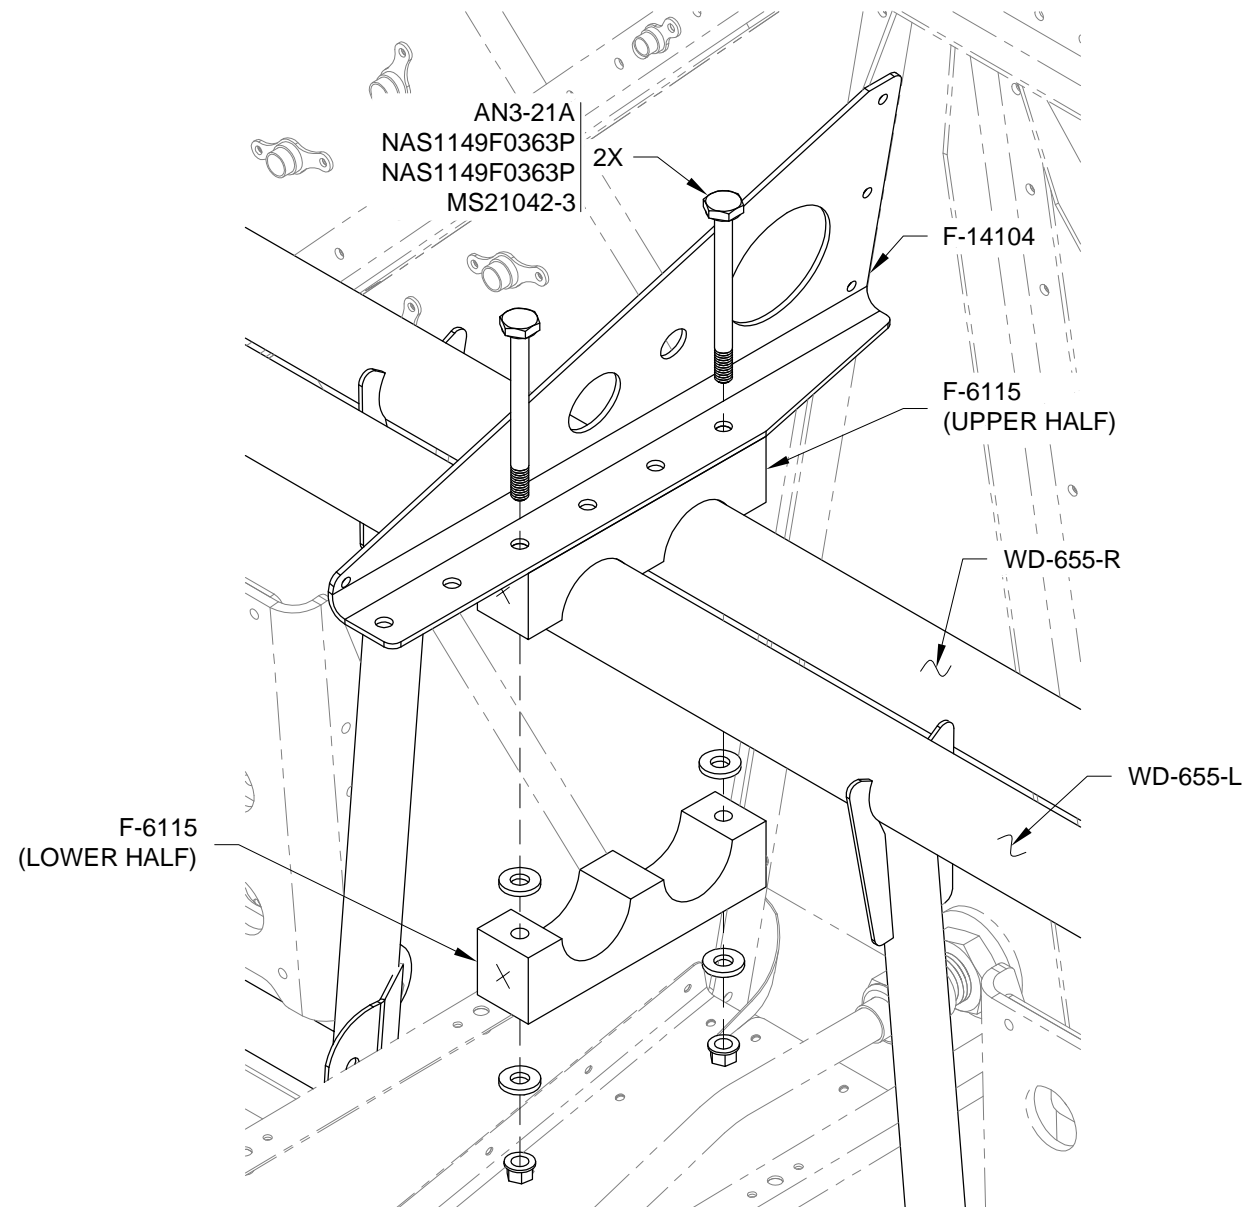

FIGURE 1: INSTALL RUDDER PEDAL BEARING BLOCK
Step 1: Attach the upper and lower halves of the F-6115 Rudder Pedal Bearing Block to the F-14104 Support Angle as shown in Figure 1. The assembled halves must match their original configuration.